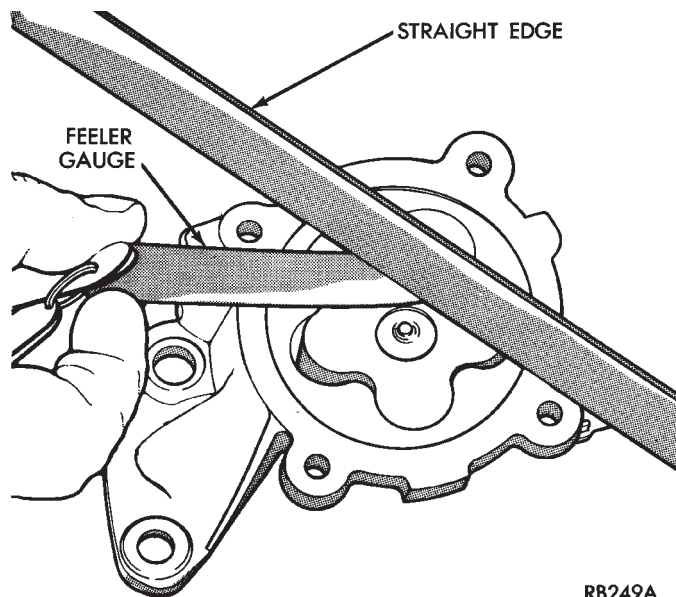

Fig. 8 Checking Rotor End Clearance
(1) Check rotor end clearance with feeler gauge as shown in (Fig. 8).
(2) Limits: